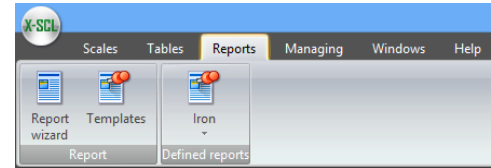

Fig. 17 Report template on the menu bar
4. If you want a button on the menu bar for quick creating of this report, check the option “Show report in menu” Fig. 17
To use the created template – you can place it on the menu bar as seen on Fig. 17 or in the process of creating a report, select the template from list in the first step, and click on the “Next” button.